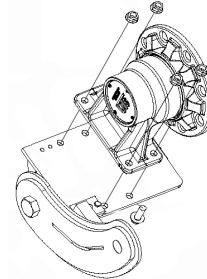

Fig. 1
3. Remove hub assembly. Fig 1
4. Install new hub assembly in the same position as the old hub. Fig. 1